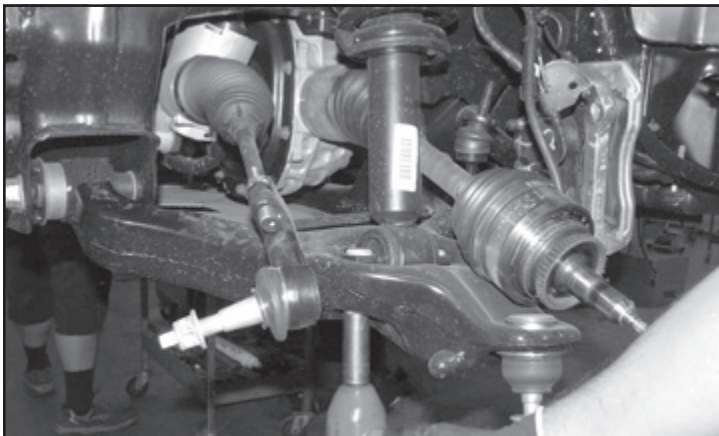

FIGURE 31 - STEP 38
38. Install the coil over into the frame bucket. Rotate lower mount inline with the control arm tabs, and the pivot at the control arm using the factory hardware. Torque the upper nuts to 35 ft-lbs and the lower pivot to 100 ft-lbs. Refer to the drawing below for shock orientation in the vehicle. **SEE FIGURE 31**